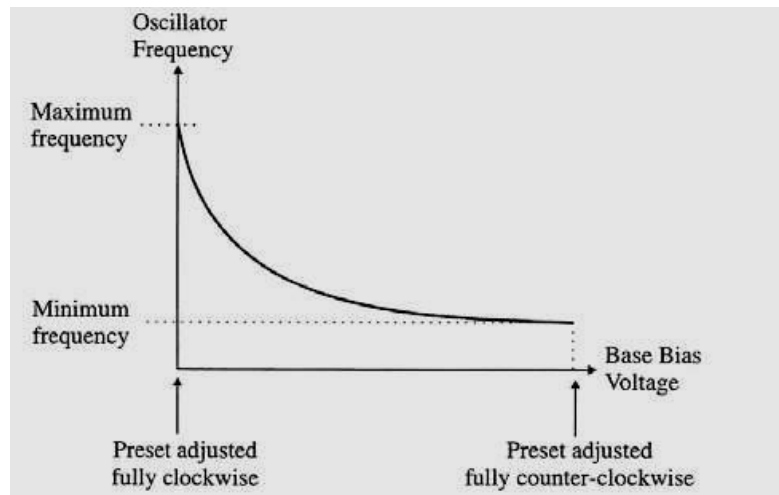

Figure 17: A group of DC Voltage/ Frequency Output for a Reactance Modulator
6. Again record the oscillator output frequency measured at tp34 and the DC input voltage measured at tp 11. Take 10 readings as the preset is adjusted to enable a graph of DC voltage/frequency output to be plotted. The result would be similar to that shown in Figure17: